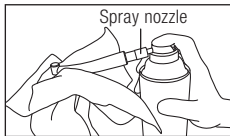

Fig. 25
- ② Shake the can 3 or 4 times.
- ③ Insert the spray nozzle into the rear of the handpiece while holding the head of the handpiece with a cloth etc.. (Fig. 25).